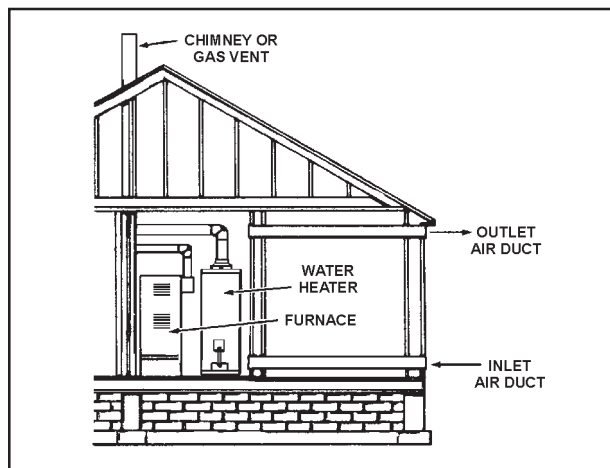

FIGURE 14.
3. When communicating with the outdoors through horizontal ducts, each opening shall have a minimum free area of 1 square inch per 2,000 Btu per hour ($11\text{cm}^2/\text{kW}$) of total input rating of all equipment in the enclosure, see Figure 14.
4. When ducts are used, they shall be of the same cross-sectional area as the free area of the openings to which they connect. The minimum short side dimension of rectangular air ducts shall not be less than 3 inches (76.2 mm), see Figure 14.